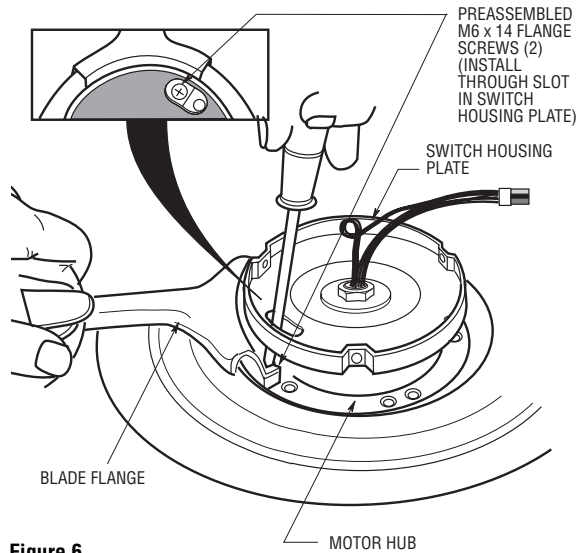

Figure 6
- 9. Rotate the motor hub until the flange screw hole is visible through the slot in the switch housing plate. Attach the blade assembly to the motor hub using the two M6 x 14 flange screws preassembled in flange. Make sure the screws are tightened securely (Figure 6). Repeat this procedure for the other four blade assemblies.